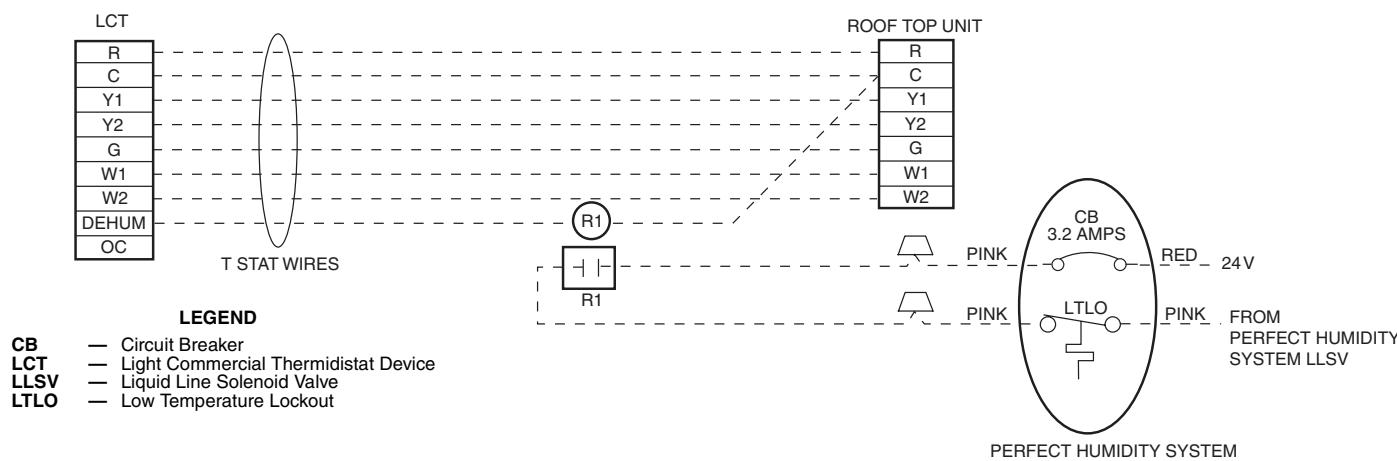

Fig. 14 — Typical Rooftop Unit with Perfect Humidity Dehumidification System with Thermidistat Device
3. A field-supplied relay must be installed between the Thermidistat device and the Perfect Humidity™ circuit (recommended relay: HN612KK324) Fig. 14. The relay coil is connected between the DEHUM output and C (common) of the unit. The relay controls the Perfect Humidity solenoid valve and must be wired between the Perfect Humidity fuse and the low-pressure switch. Refer to the installation instructions included with the Bryant Light Commercial Thermidistat device for more information.